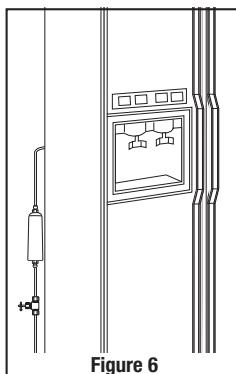

Figure 6
7. Connect the outlet port of the filter to the water line going to the appliance being served. (Figure 6)
5. Connect the outlet port of the filter to the water line going to the appliance being served. (Figure 6)